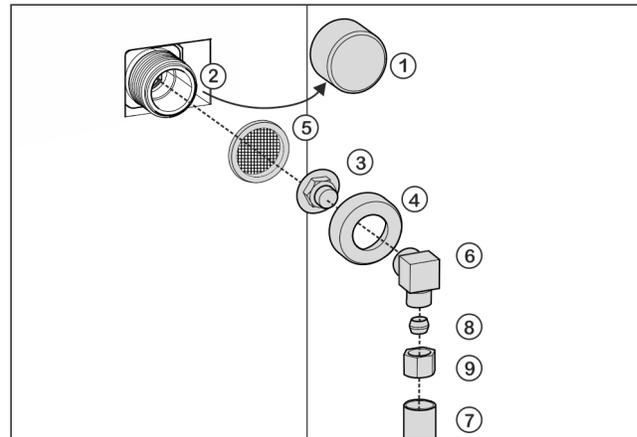

Fig. 50
- ▶ Remove cap Fig. 50 (1) from solenoid valve Fig. 50 (2).
- ▶ Insert coupler Fig. 50 (3) into union nut Fig. 50 (4).
Improper installation of water filter Fig. 50 (5)!
- ▶ Insert water filter Fig. 50 (5) with the recess pointing down towards coupler Fig. 50 (3).
- ▶ Attach union nut Fig. 50 (4) to solenoid valve Fig. 50 (2) and tighten.
- ▶ Screw on angle piece Fig. 50 (6).
- ▶ Connect water pipe Fig. 50 (7) (e.g. copper) to angle piece Fig. 50 (6) using clamp ring Fig. 50 (8) and nut Fig. 50 (9).
- ▶ Attach water pipe Fig. 50 (7) to the housing if possible, using the clip bracket.
- ▶ Put angle piece Fig. 50 (6) to one side.
- ▶ Connect water pipe Fig. 50 (7) (e.g. copper) to coupler Fig. 50 (3) using clamp ring Fig. 50 (8) and nut Fig. 50 (9).